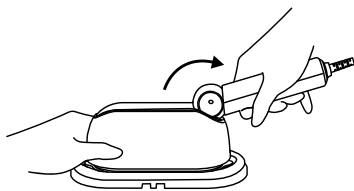
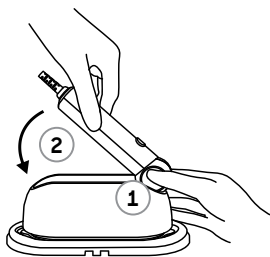

FIGURE 1A
FIGURE 1B
1. Rotate the Handle until the Rotary Button clicks into place. See figure 1A.
3. Turn unit to ON (I) position. When ON, the Power Indicator Light will illuminate ORANGE. When using the Steam function, the Light will illuminate PURPLE.
8. Press and hold the Rotary Button to return the handle to it's resting position. See figure 1B.
9. Press and hold the Rotary Button to return the handle to it's resting position. See figure 1B.